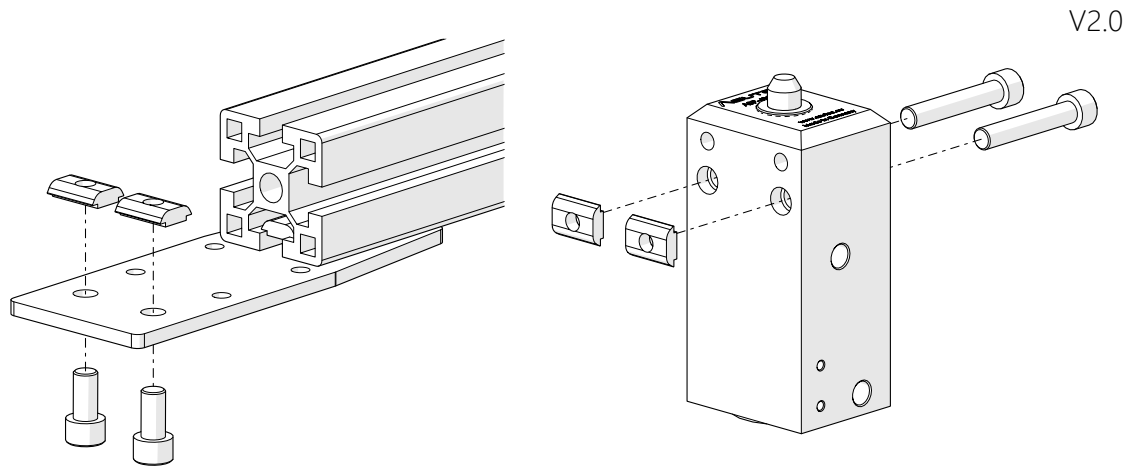

Figure 6: Removing Mounting Hardware
Step 1: Loosen all P-00223 and M8 SHCS as shown in Figure 6